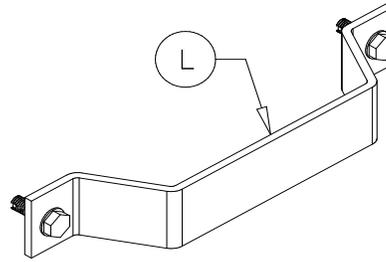

Figure 21
Note: The pivot arm guides (L) (see Figure 21) prevent the tarp from shifting to either side of the box when the tarp is in closed position.